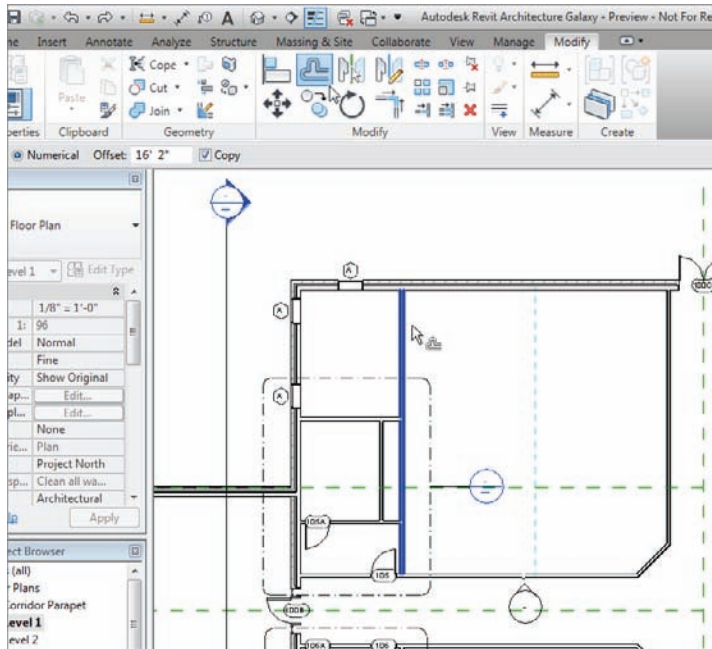

FIGURE 4.47 Choosing your options and picking the wall to be offset
1. Zoom in on the west part of the east wing. This is the area where the restrooms are (see Figure 4.47). The objective is to offset the vertical wall that is to the right of the restrooms, to the middle of the open space.
2. On the Modify panel of the Modify tab, click the Offset button, as shown in Figure 4.47.
6. Hover your cursor over the wall to the right of the lavatory, as shown in Figure 4.47. You will see an alignment line appear to the right of the wall.